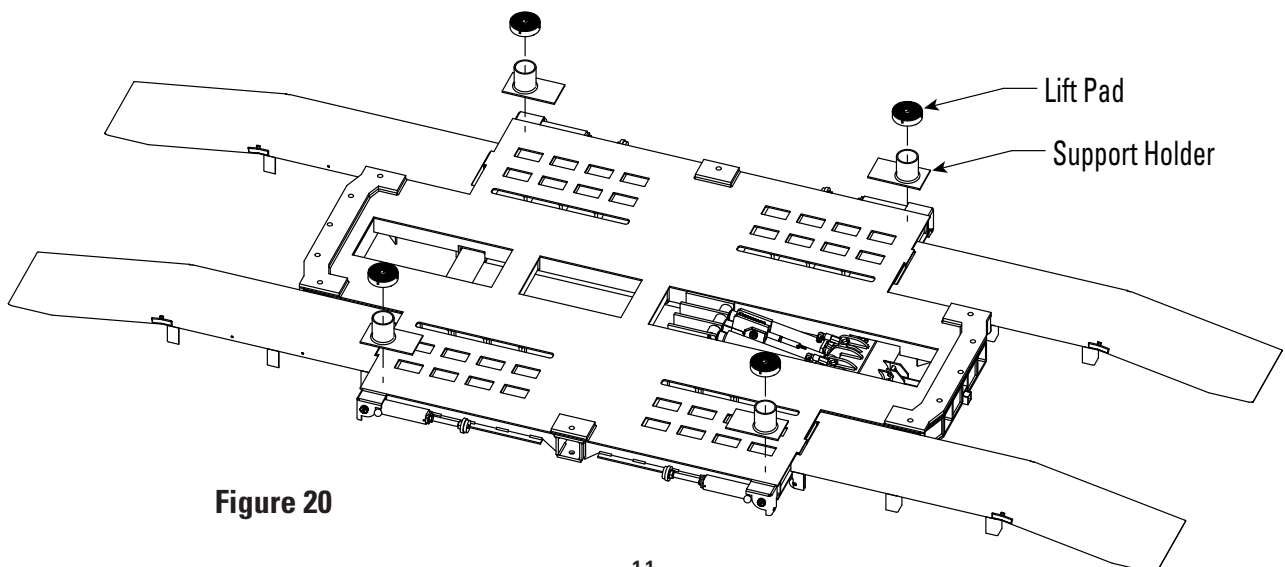

Figure 20
2. Place the Lift Pads into the Support Holders (see Figure 20).